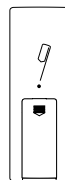

Fig. 19
4. **Confirming the CLOSE / lowest position** Activate **learn button** on the back of the remote control **2 x** (Fig. 19) and then the **CLOSE button**. The motor confirms this input by briefly turning once in one direction.